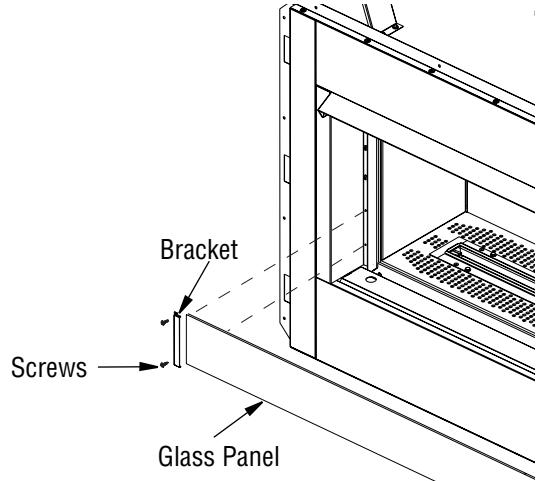

Figure 25a - Installing Draft Shield Kit
The draft shield kit should be installed after the fireplace is completely framed and finished. The brackets are attached to the front side face of the fireplace using two screws as shown in **Figure 25a**. Position the glass panel in the bracket so that it is securely in place. The glass panel can be placed in two different height locations.
3. Remove glass panel if installed (**Figure 25a, Page 14**).